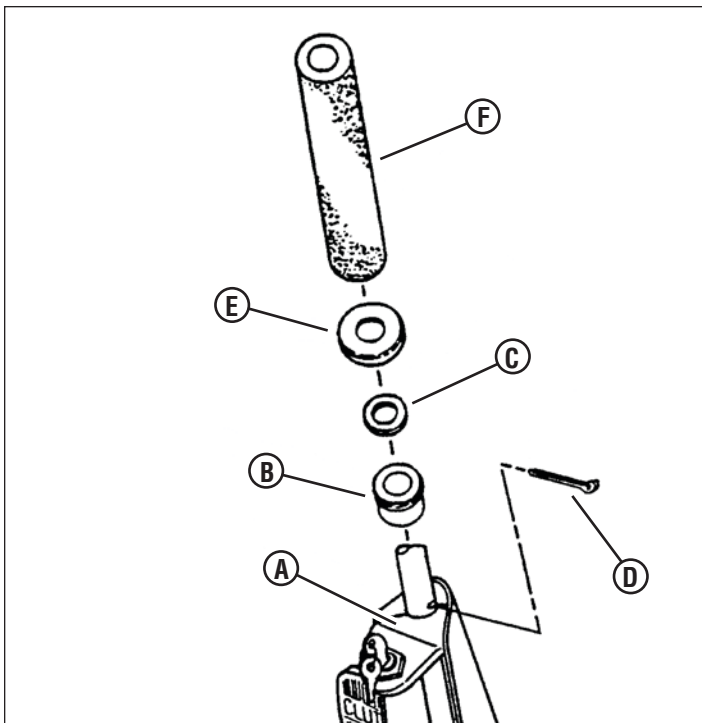

Figure 2
- B. Tap the upper bushing (B, Figure 2 (next page), installed) so that it contacts the control panel (A).
- C. Place the thrust washer (C) on top of the bushing.
- D. Install the 3/16" x 1" cotter-pin (D) into the steering shaft above the thrust washer.
- E. Install the bushing cover (E) over the cotter-pin, thrust washer and bushing.
- F. Slide the foam steering shaft cover (F) over the steering shaft.